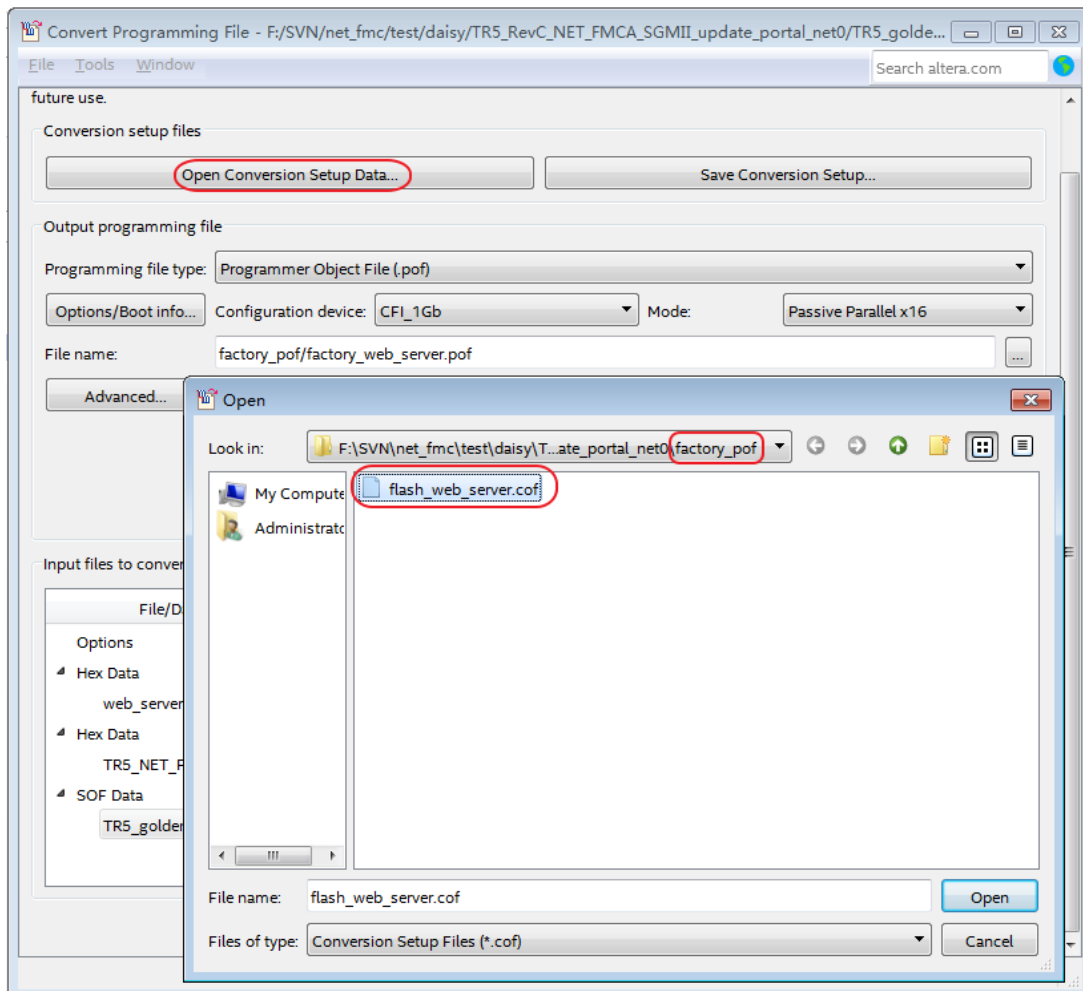

Figure 4-3 Selecting Conversion Setup Data
- Click the Open Conversion Setup Data button and choose the flash\_web\_server.cof file in factory\_pof directory as shown in **Figure 4-3**.